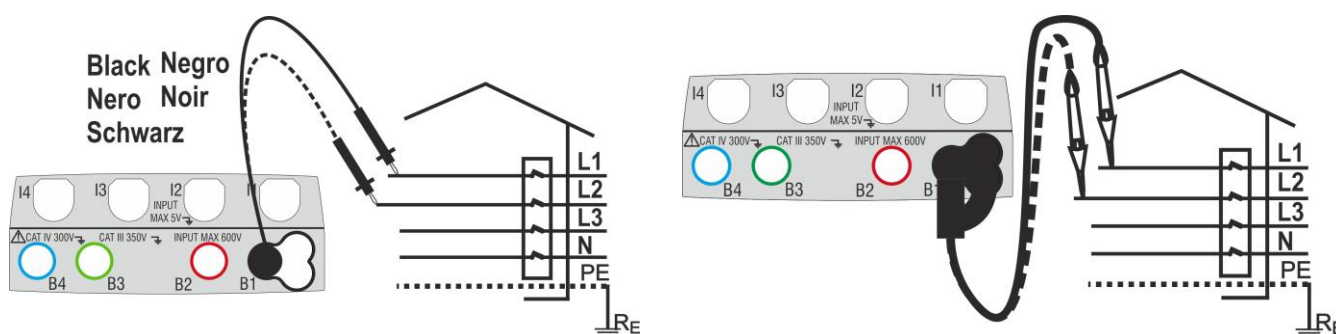
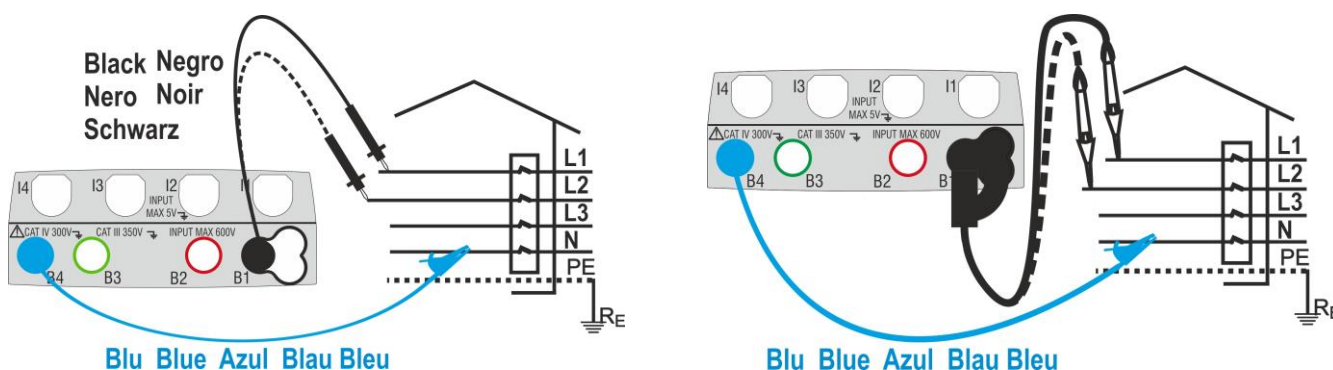

Fig. 23: Phase sequence check of 1T phases with terminal and remote lead
Fig. 24: Phase sequence check of 2T phases with terminal and remote lead
- Insert the blue and black connectors of the single cables in the corresponding input terminals of the instrument B4, B1 (2T measurement). Insert in the free end of the cables the corresponding alligator clips or tips. It is also possible to use the remote lead by inserting its multipolar connector into the input lead B1. Connect the alligator clips, the tips or the remote lead to phase L1 and N according to Fig. 23 and Fig. 24.
Under these conditions, connect the alligator clips, the tips or the remote lead to phase L2 and N in accordance with Fig. 23 and Fig. 24.